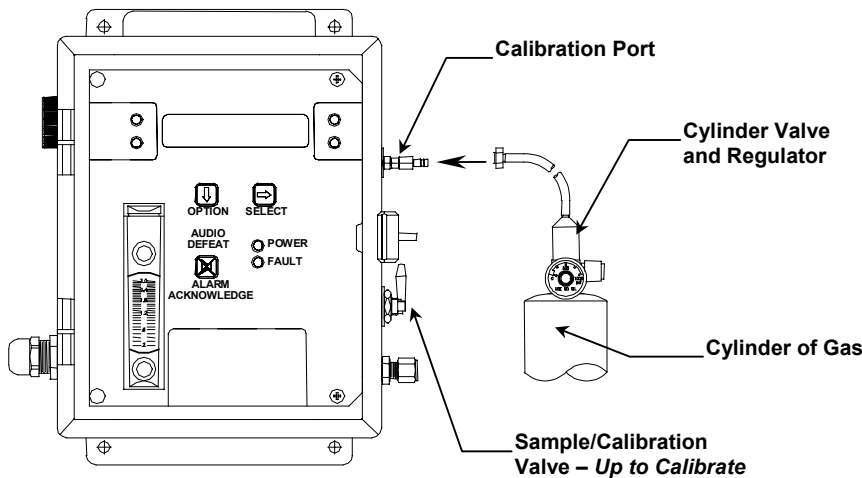

Figure 7: Connection of Calibration Gas Cylinder
TO CONTINUE THE PROCEDURE: attach a cylinder of zero gas to the Calibration Port using the calibration adapter, as shown in **Figure 7**. Open the cylinder valve, set the regulator at 55 PSIG, and turn the red handle of the sample-calibrate valve up toward the calibration port. Let the gas flow for about a minute
- Attach the correct span gas to the Calibration Port with the calibration adapter turn the red handle of the Sample-Calibrate valve up toward the Calibration Port. See **Figure 7**.